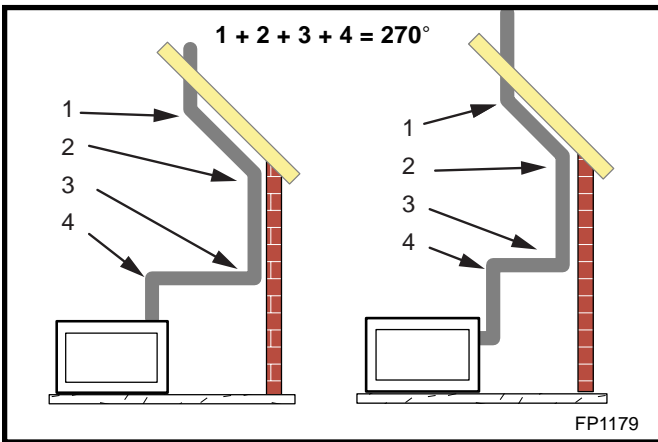

Fig. 34 Maximum elbow usage.
- Up to two (2) 45° elbows may be used within the horizontal run. For each 45° elbow used on the horizontal plane, the maximum horizontal length must be reduced by 18" (450mm).
- Two (2) sets of 45° elbows offsets may be used within the vertical sections. From 0 to a maximum of 8' (2.5m) of vent pipe can be used between elbows. (Fig. 34)
- 7DVCS supports offsets. (Fig. 34) This application requires you to first determine the roof pitch and use the appropriate starter kit. See Venting Components List.
- The maximum angular variation allowed in the system is 270°. (Fig. 34)